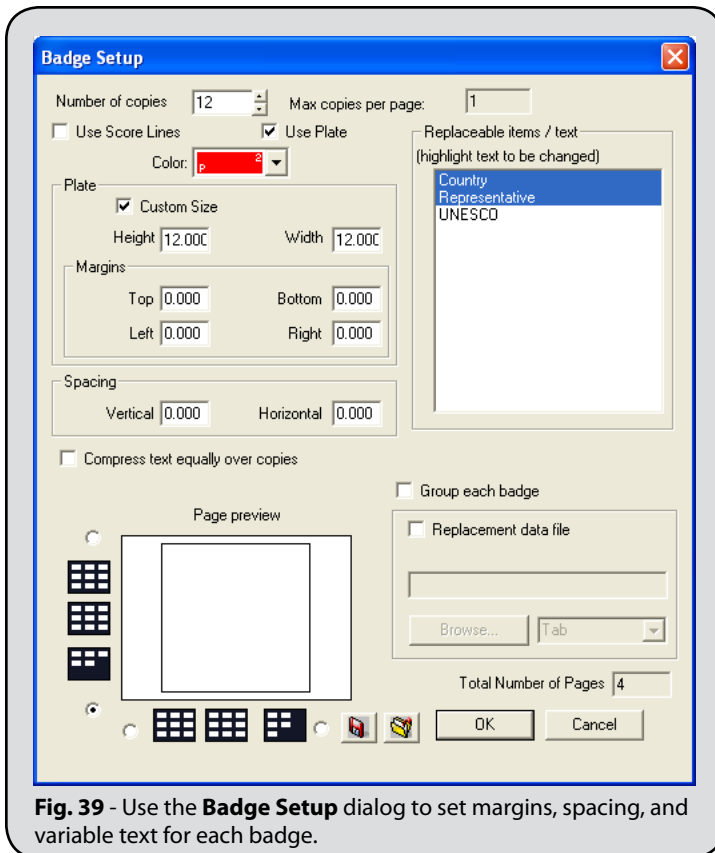

Fig. 39 - Use the **Badge Setup** dialog to set margins, spacing, and variable text for each badge.
2. From the **Layout** menu, choose the **Badges** item. The **Badge Setup** dialog will open (Fig. 39).